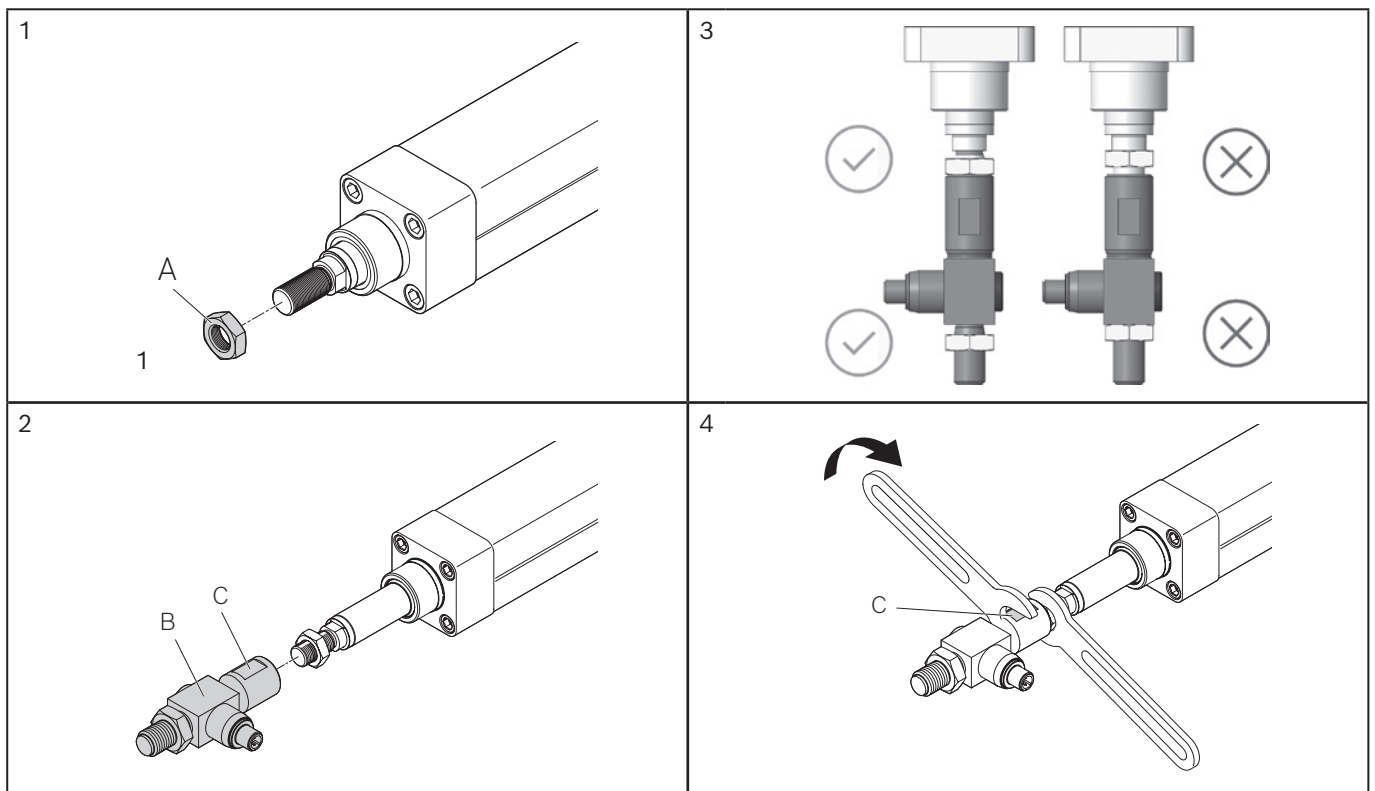

Fig. 6: Assembly, force sensor
- ▶ Lock the lock nut at a distance from the sensor body. ➔ ☒ Fig. 6; image 3